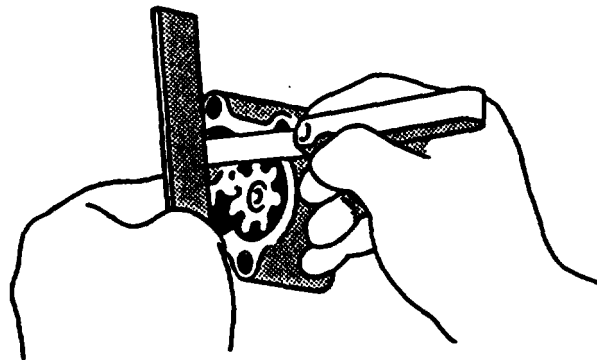

FIGURE 3-36. Measuring Oil Pump Axial Clearance
- d. Using straight edge and feeler gage, check axial clearance between gear and pump cover, refer to FIGURE 3-36. Clearance standard is 0.002 to 0.007 inch (0.05 to 0.017 mm). Maximum permissible axial clearance is 0.0085 inch (0.22 mm).